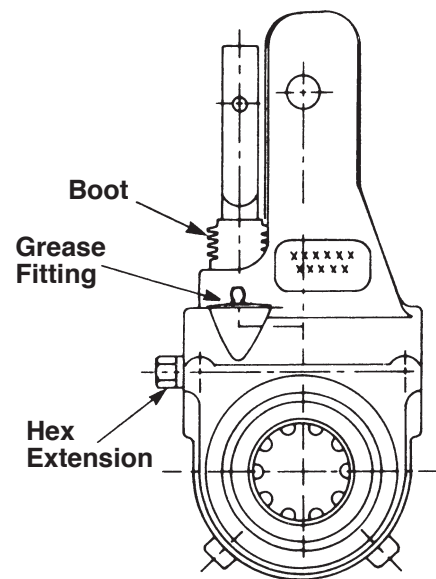

Figure 7 - Lubrication Points
1. A grease fitting is provided to allow lubrication during normal chassis servicing (See Figure 7). With a conventional grease gun, lubricate until grease appears on the camshaft or grease flows from the grease relief.